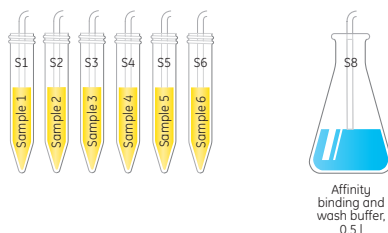

Fig 3. Sample placement at the sample valve V5.
- Prepare the sample pump according to the “System preparations” cue card. Gently transfer each sample inlet tubing into each sample according to Figure 3. Make sure no air enters the tubing.